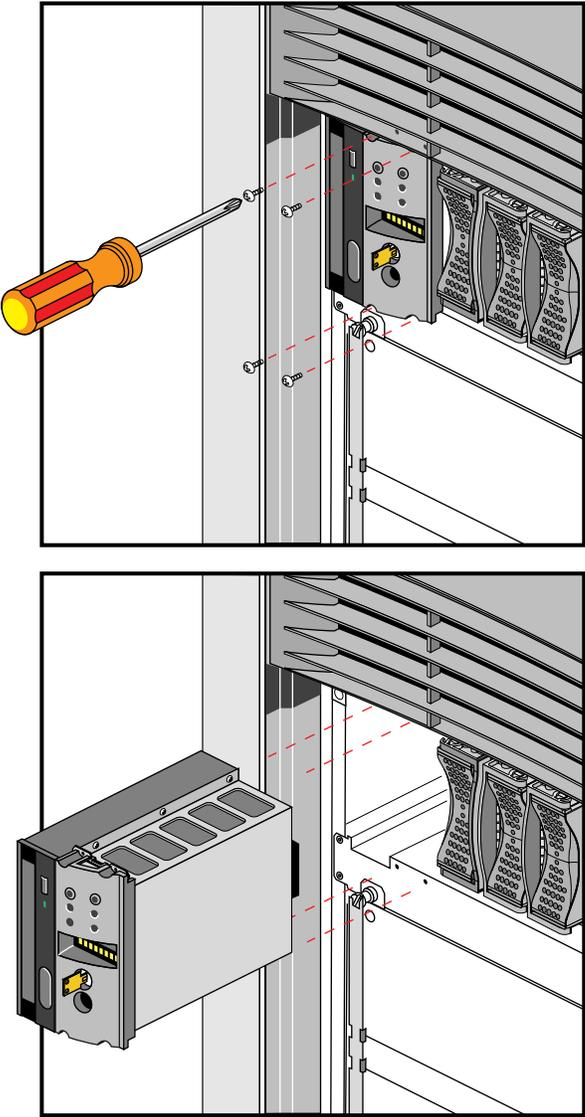

Figure 5-8 Removing the System Controller and CD-ROM
3. Remove and reserve the screws that hold the assembly in place, as shown in Figure 5-8.